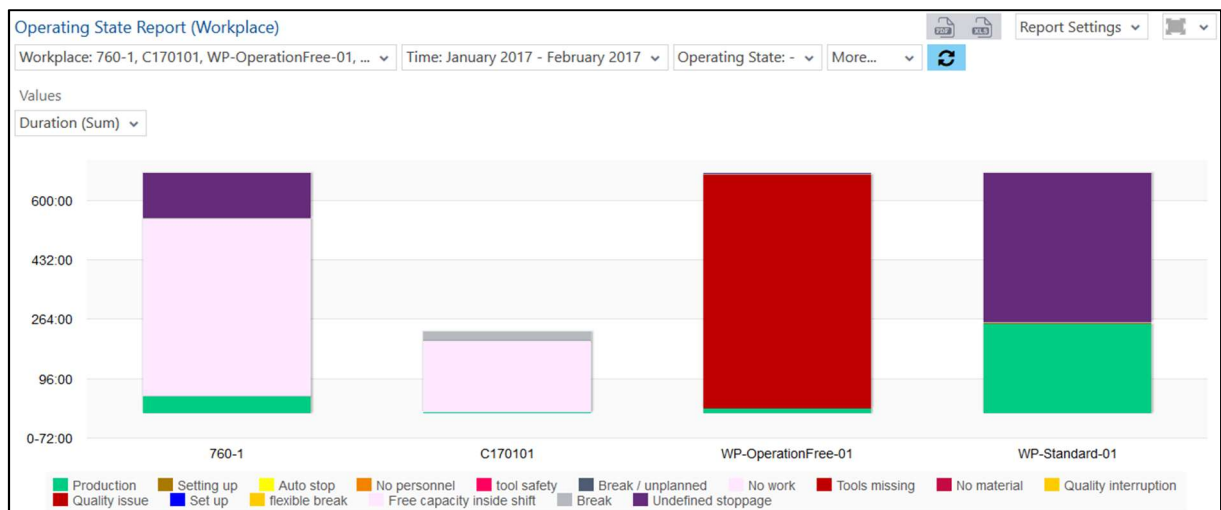

Fig. 55: Operating State Report (Workplace) as a column chart
- Operating State Report (Workplace) as a column chart (Fig. 55):